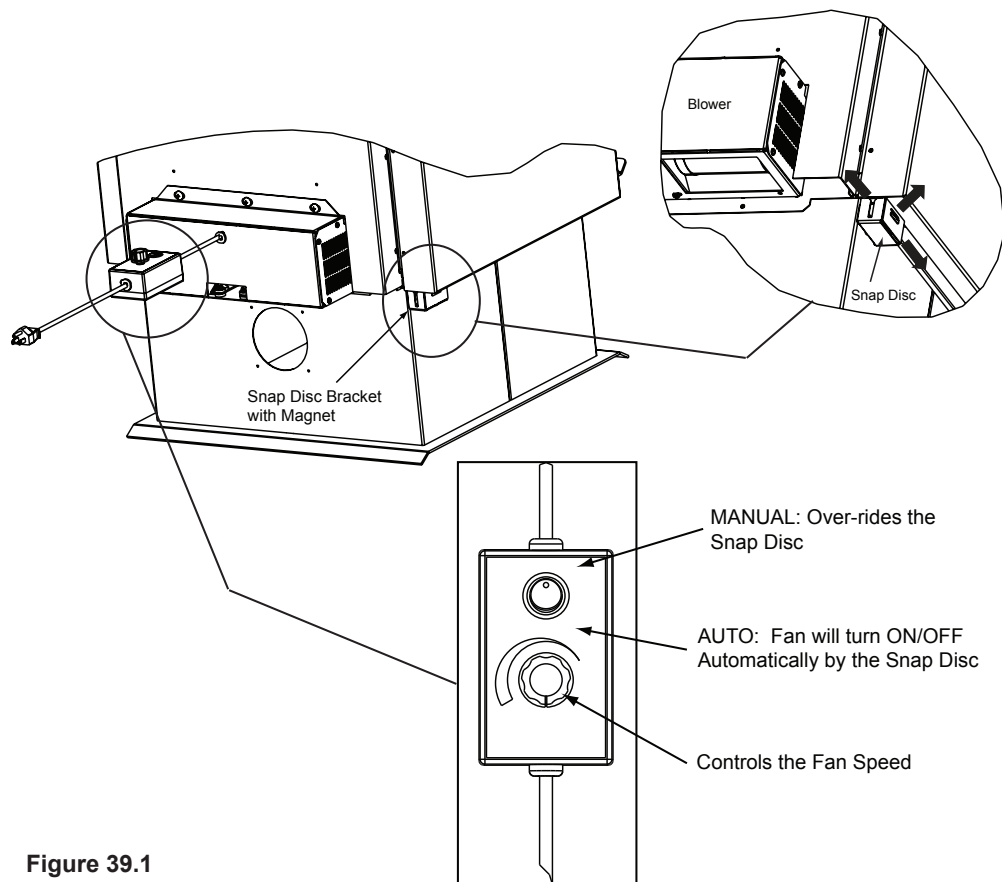

Figure 39.1
1. Align holes in mounting flange of blower with bolt holes in appliance. Blower should be positioned at bottom of rear outer skin as shown in **Figure 39.1**.
3. Place the bracket containing the snap disc and magnet under the bottom left rear corner as shown in **Figure 39.1**.